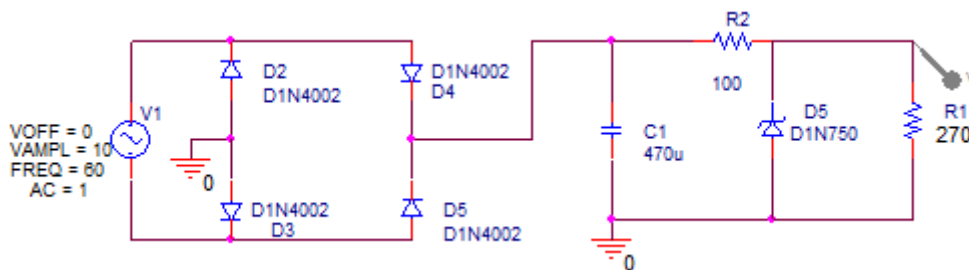

Figure 2 Regulated power supply.
15. Add a voltage regulator to your dc supply circuit as shown in Fig. 2. Change R₁ back to 4.7 k Ω . Rerun the simulation. *What does the output waveform look like? How is the output voltage level related to V_Z of the Zener diode?*
An op amp *amplifies the difference* between two input voltages and produces a *single output*. It is characterized a very large open-loop gain (A), a very large input impedance, and a very small output impedance. Stable closed-loop gains can be obtained using negative feedback. For a noninverting configuration (Fig. 2(a)), the closed-loop gain (G) can be ideally given by: